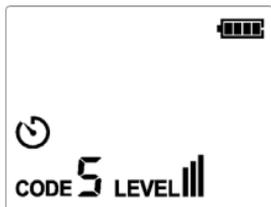

Figure 6.1.1a
2. The transmitter is in powered-on state by default (transmission is not started by the transmitter). Short press the START/STOP button to stop transmission when transmission is started by the transmitter. When the CODE button is short pressed, the CODE symbol will flash for 0.5s, as shown in **Figure 6.1.1a**.